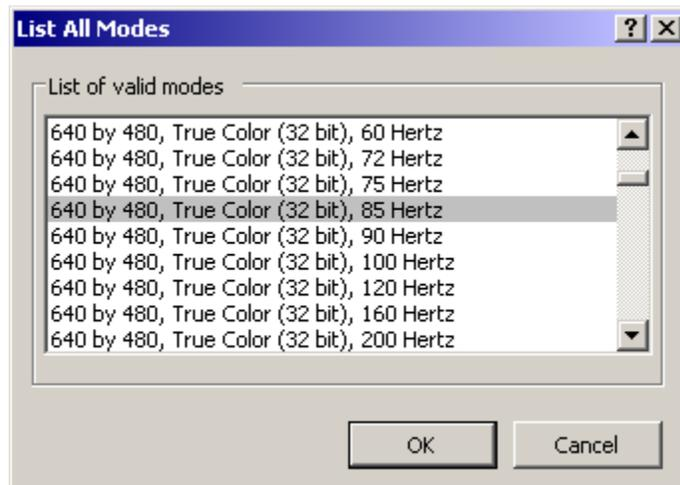

FIGURE 154. List All Modes window
7. A window similar to Figure 154 will appear: